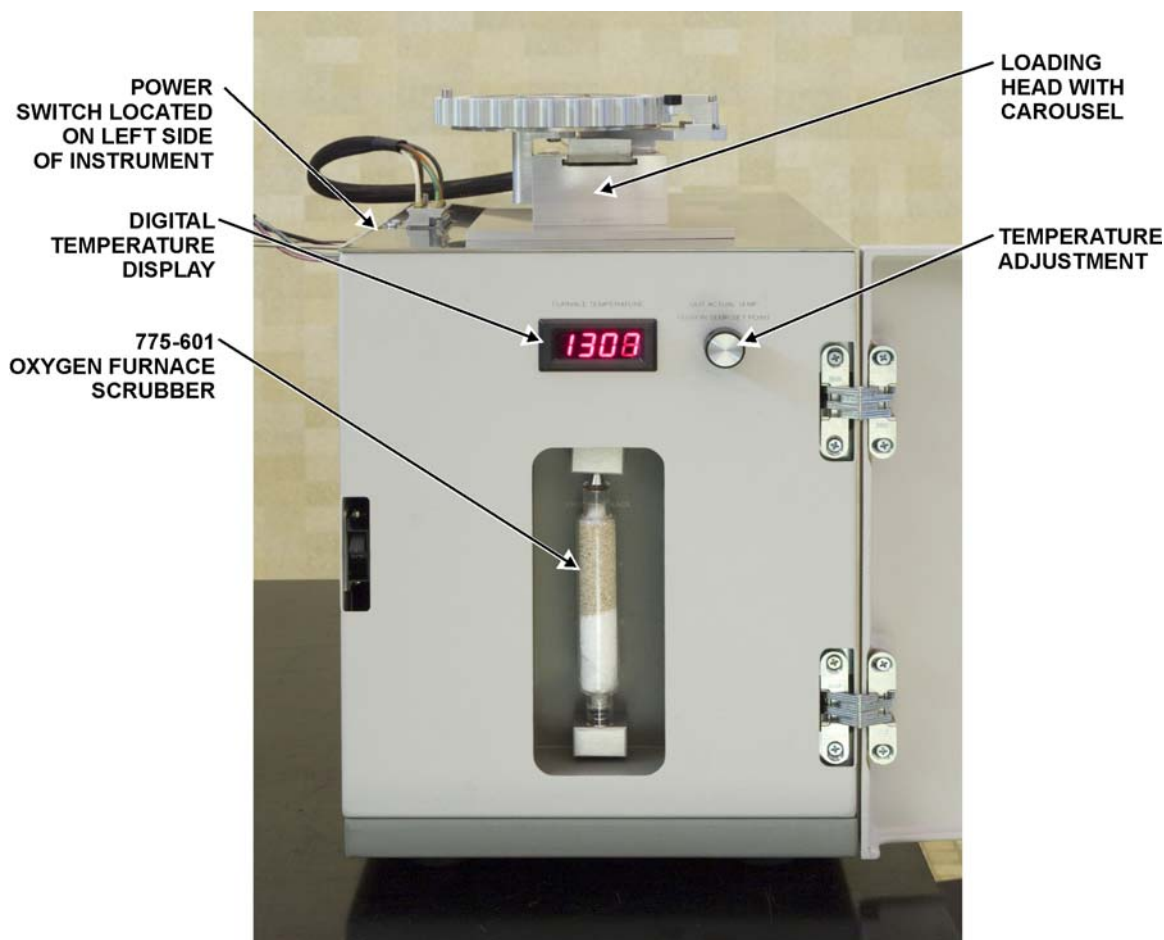

Figure 3-24
3. Briefly left up the Reagent tube located on the front of the oxygen furnace too remove system pressure. Refer to Figure 3-24 on page 3-55.